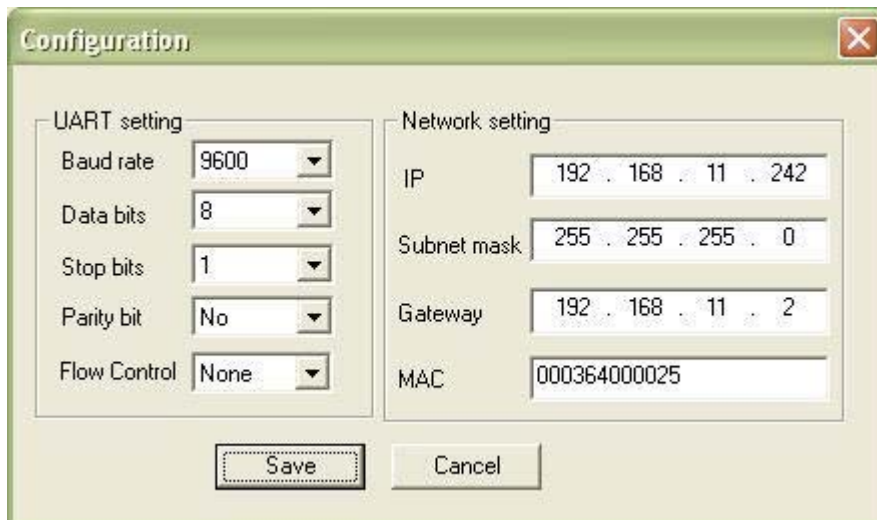

Figure 4-5 UART and Network properties
- 4). "Preference Button" is for setting UART and network. This button will be active after connection between PC and Ethernet-232 is established. After press this button, configuration window will appear. In configuration window, user can set UART properties and network properties as shown in Figure 4-5.